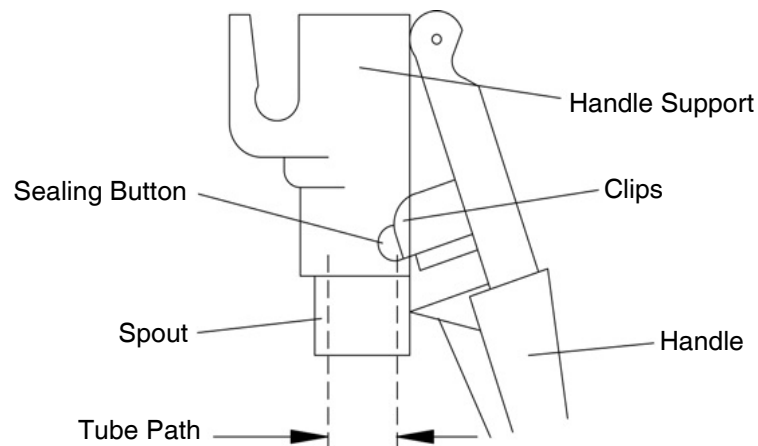

Figure 1.
1. Removing the push handles. See Figure 1.